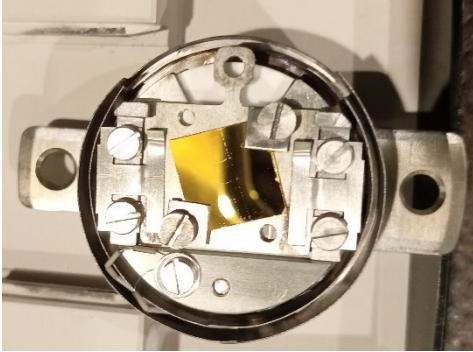

Fig. 1. PTS adapter
1. The samples for the Phelix beamline have to be mounted on flag style sample holders that will be placed on the PTS adapter (Fig. 1). PTS adapters and flag style plates (Cu, Ta, Mo) are available on site.